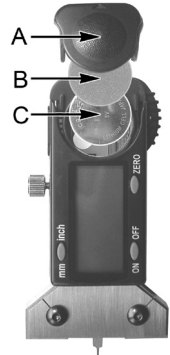

fig.2
4.1.1 Remove battery cover (fig.2-A) by sliding backwards and lifting off.
4.1.2 Remove rubber spacer (fig.2-B) and exhausted battery (fig.2-C) and fit replacement with +ve side uppermost. Place the rubber spacer on top of the battery and press it into the recess. Slide the cover back into place.